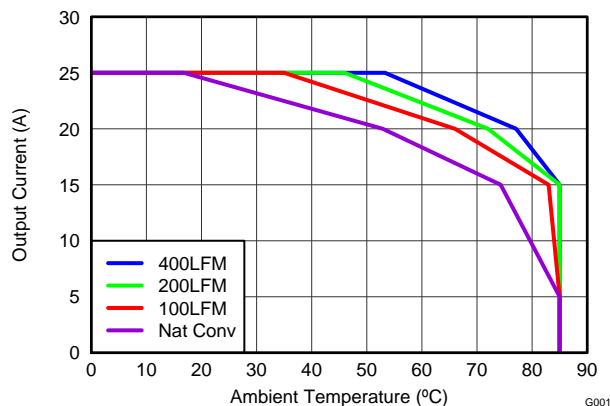
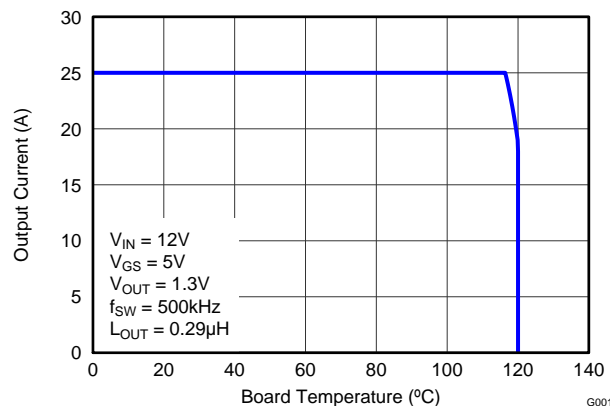

Figure 3. Safe Operating Area – PCB Horizontal Mount (1)
Figure 4. Typical Safe Operating Area(1)
The SOA curves in the CSD87588N data sheet provides guidance on the temperature boundaries within an operating system by incorporating the thermal resistance and system power loss. Figure 3 to Figure 4 outline the temperature and airflow conditions required for a given load current. The area under the curve dictates the safe operating area. All the curves are based on measurements made on a PCB design with dimensions of 4" (W) x 3.5" (L) x 0.062" (T) and 6 copper layers of 1 oz. copper thickness.